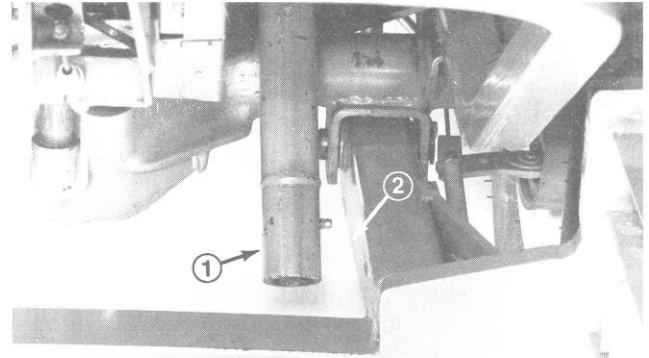

Figure 8
1. Make sure PTO shaft on traction unit clears cutting unit frame, engage parking brake, be sure traction pedal is in neutral, PTO lever is in OFF position, start engine and raise frame (Fig. 8).